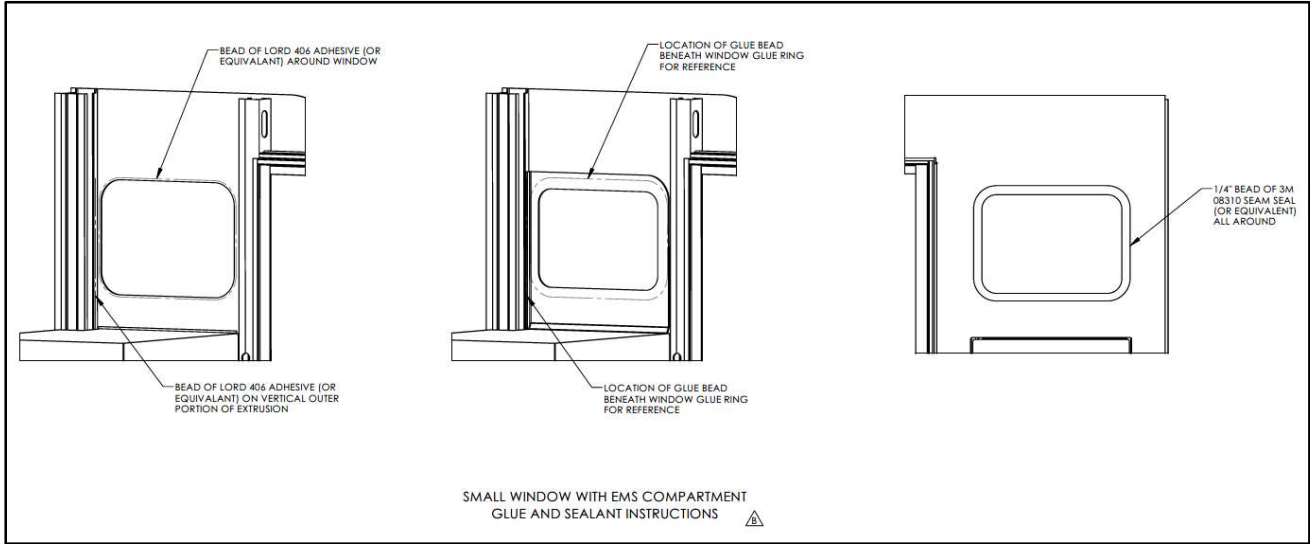

Figure 3. Small Window ring placement and glue instructions.
- b. Use **Figures 3 & 4** for guidance.
- c. Working time for 3M 08310 Seam Seal is ten (10) minutes; cure-time is 15 minutes or more.